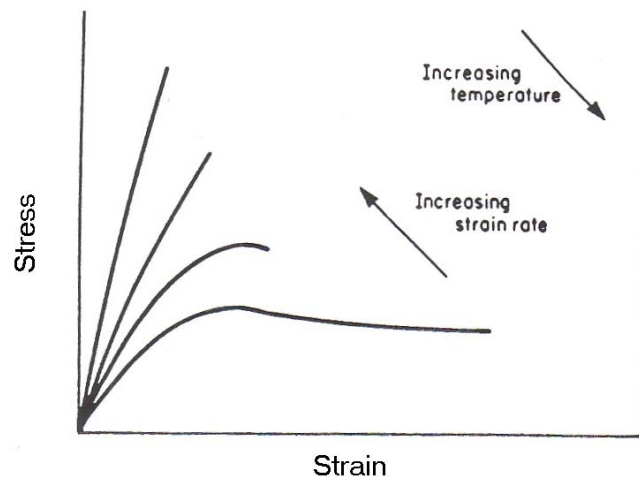

Figure 3: Effect of strain rate and temperature on the stress-strain response of polymers
3. [a] Figure 3 shows the effect of temperature and strain rate on the stress-strain response of polymers. Discuss with a suitable example why mechanical behaviors of polymer are affected by the strain rate and temperature.